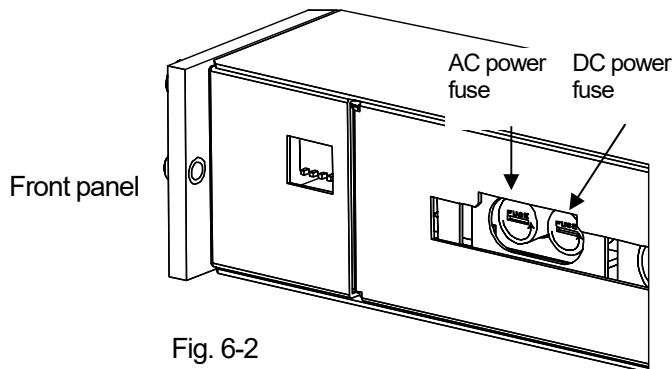
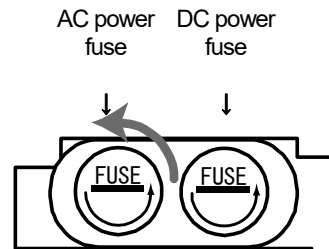

Fig. 6-2
Fig. 6-3
2. As shown in Figure 6-2, place the unit so that its front faces left, its bottom faces forward, and its rear faces right.
3. Use a flat-blade screw driver and turn the fuses in the direction of the arrows marked on the fuse holders. (See Fig. 6-3, 90° counter-clockwise)
7. Confirm that the fuse holder is fully installed in the unit as shown in Fig. 6-2. Also, confirm that the fuse holder slit (flat-blade screw driver contact portion) is parallel to the unit as shown in Fig. 6-3.